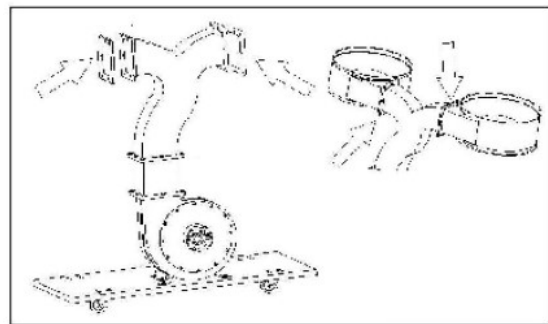

Fig 5
Now install the two collectors (C) and two gaskets (I) to the outlet as shown in Fig 5.